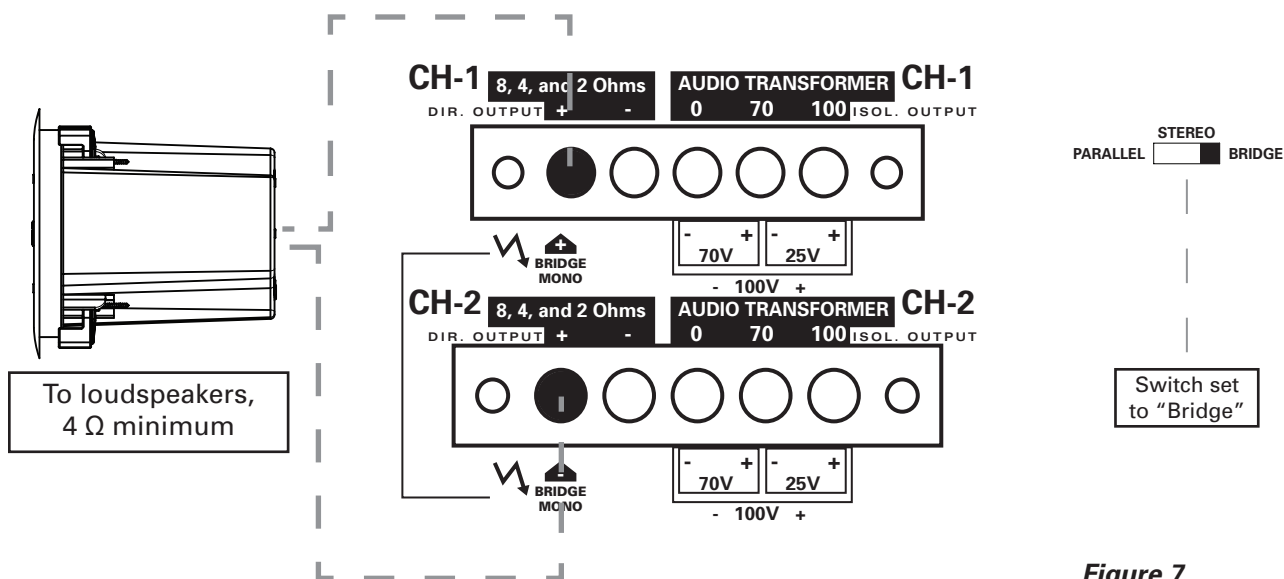

Figure 7
- **Bridge** - When the switch is set to this position, connect the mono input signal to channel 1 **ONLY**. The speaker load is connected across the two positive terminals as shown in Figure 7 on page 10. The amplifier will deliver approximately twice the voltage across the load. Please observe the minimum load specification when operating in Bridge mode.
With the amplifier turned **OFF**, move the rear mounted selector switch to the "Bridge" position and connect the input signal to channel one. Connect your speaker load (4 and 8 Ω only) across the "+" terminals of both channels, with channel 1 being positive and channel 2 being negative (Figure 7).